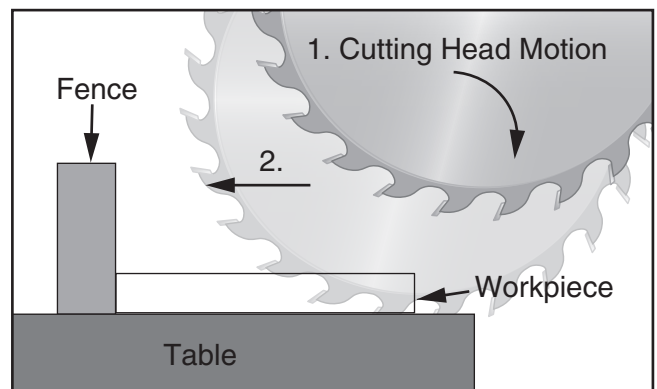

Figure 39. Cutting head during push cut.
7. Pull cutting head all the way forward then down, beginning cut at leading edge of workpiece, slowly pushing back towards fence to complete cut (see **Figure 39**).